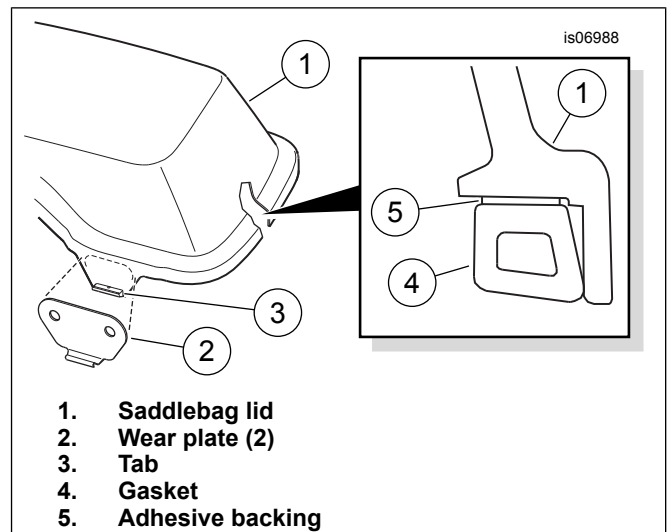

Figure 6. Assemble Wear Plates and Gasket to Saddlebag Lid
2. See Figure 6. Remove the liner from the adhesive backing of one of the wear plates (2). Carefully position the wear plate to the saddlebag lid (1), centering it on the tab (3), and press firmly into place. Hold the wear plate in position with steady pressure for about a minute. Repeat with the second wear plate at the other end of the lid.
- Orient the gasket with the **tall edge** toward the outer lip of the cover as shown in Figure 6.
4. Gradually remove the liner from the adhesive backing (Figure 6, Item 5) of the saddlebag lid gasket (4) as the gasket is pressed into place around the inside perimeter of the lid (1) as shown.